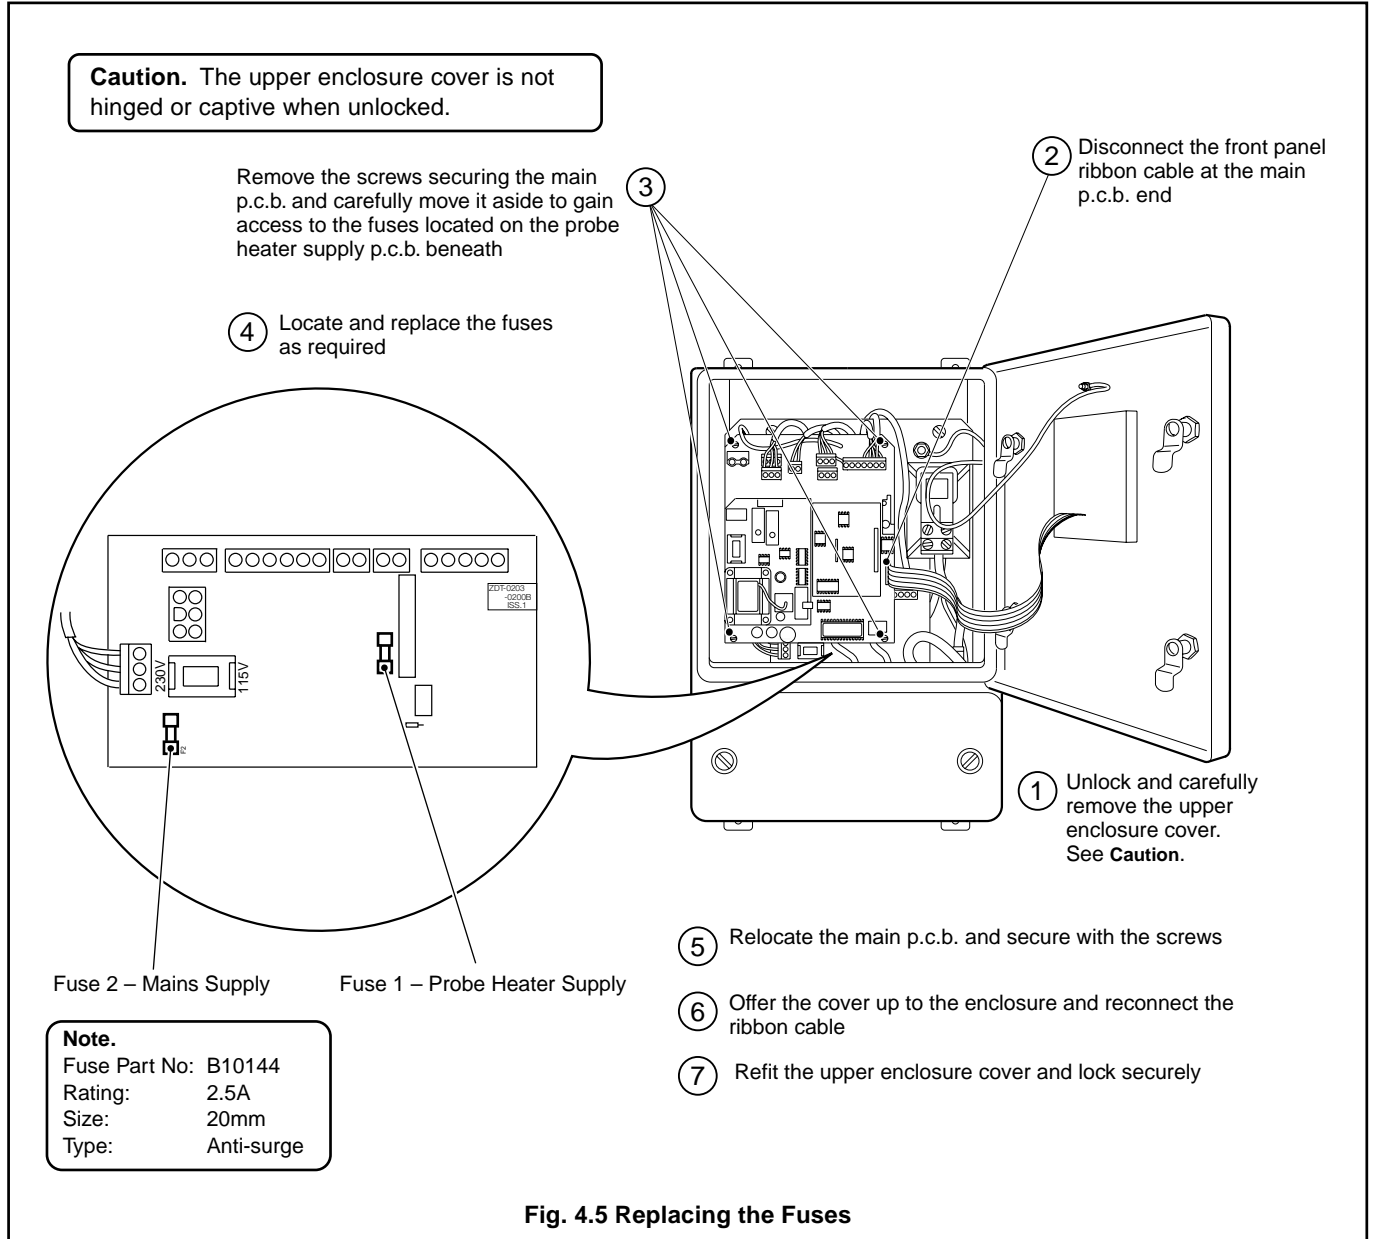

Fig. 4.5 Replacing the Fuses
4.4 Replacing the Fuses – Fig 4.5